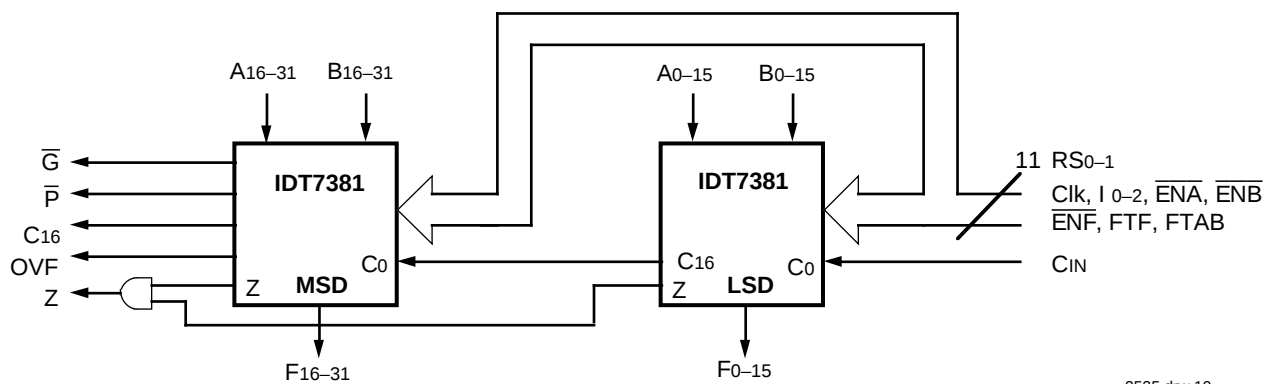
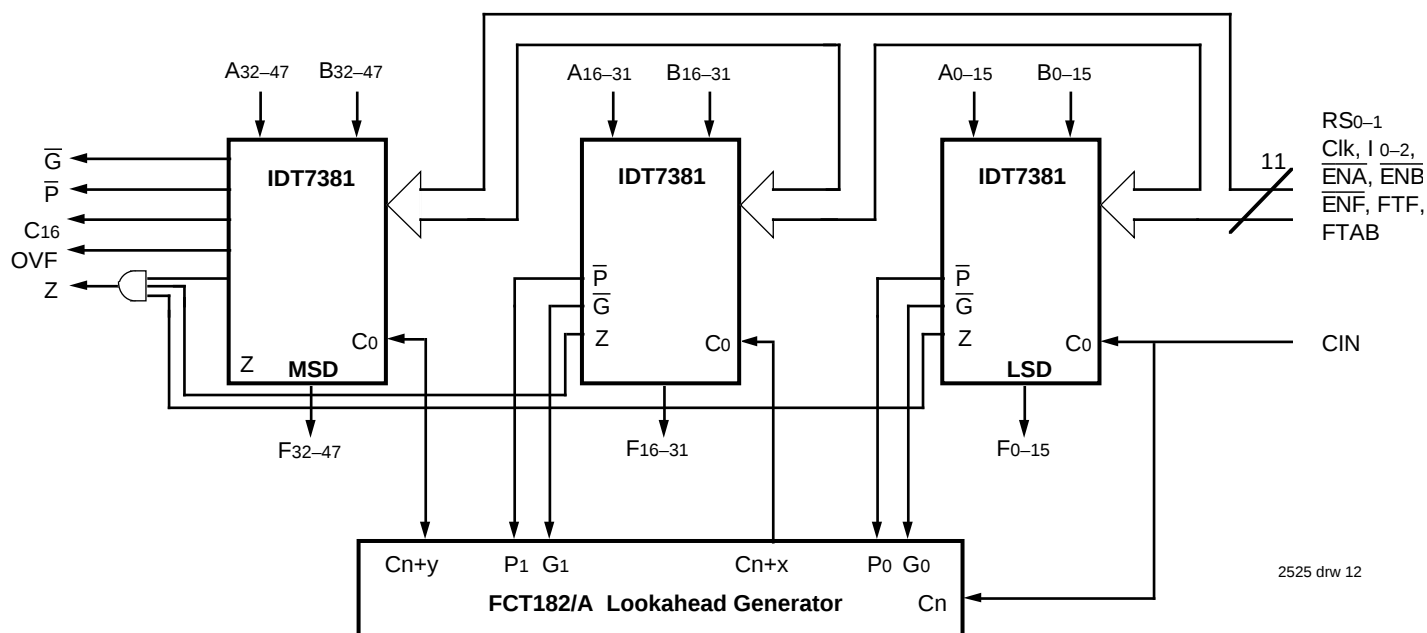

Figure 1. Cascading Two IDT7381s to 32 Bits
Figure 3. Cascading Three IDT7381s to 48 Bits Wide with a Carry-lookahead Generator
a) Cascading the IDT7381 without a carry-look-ahead generator: (Figures 1 and 2)
4. The system's zero flag (Z) is obtained by ANDing all zero flag results.
b) Cascading three or more IDT7381s with carry-look-ahead (CLA) generator: (Figure 3)
Output Load	See Figure 1